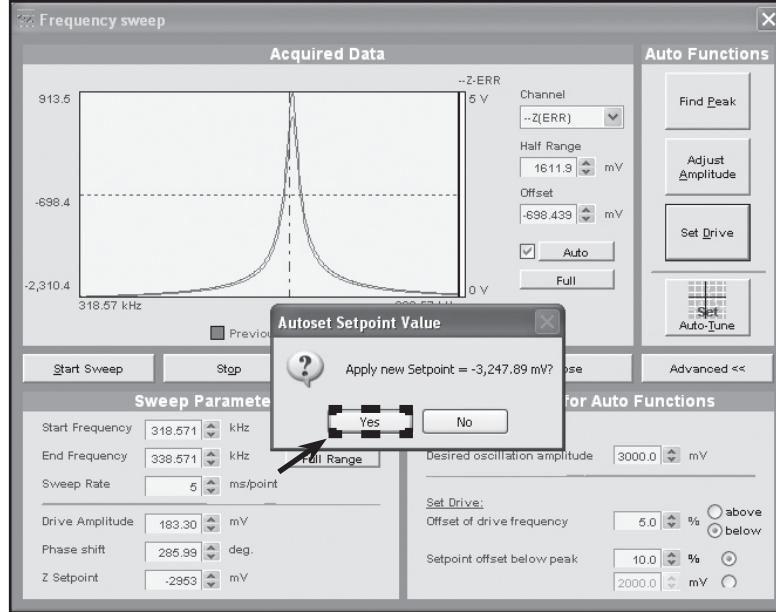

Figure 6.7: Applying Setpoint after finding peak and adjusting amplitude.
The X'pert™ Mode Frequency Sweep (tuning) window permits many user-selected parameter settings for tuning, such as: Operating Frequency Offset, Drive Amplitude, Phase Shift, Setpoint Offset, Single Frequency Sweep, Oscillation Amplitude, and Frequency Range. Figure 6.7 shows the standard parameter selections. In order to perform Manual Probe Tuning, and determine the phase settings for phase mode imaging, use the following procedure:
2. Click the Find Peak button. In the graph, the frequency sweep plot is automatically zoomed to the resonant frequency region. Next click the Adjust Amplitude button, and then the Set Drive button, to set the drive frequency and drive amplitude. Click Yes to apply the calculated Set Point (Figure 6.7).